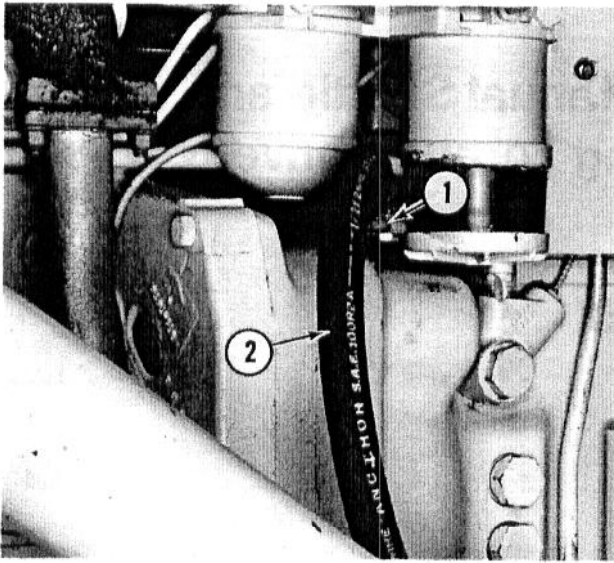

FIG. 1 — LEFT-HAND VIEW OF TRANSMISSION-TO-ENGINE ATTACHING POINT
- d. Disconnect the clip securing the crossover hose between the two lift cylinders. See Fig. 1.